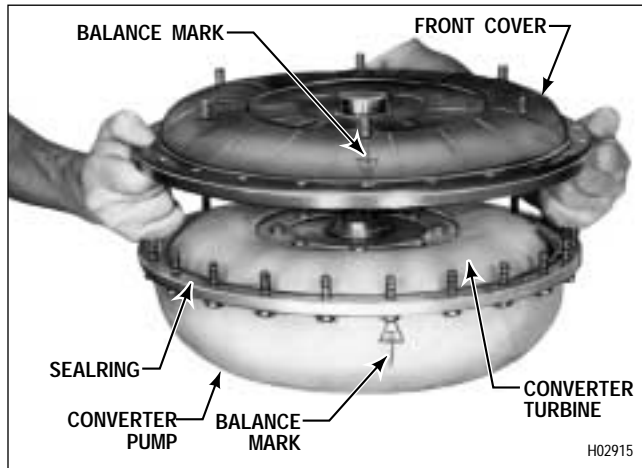
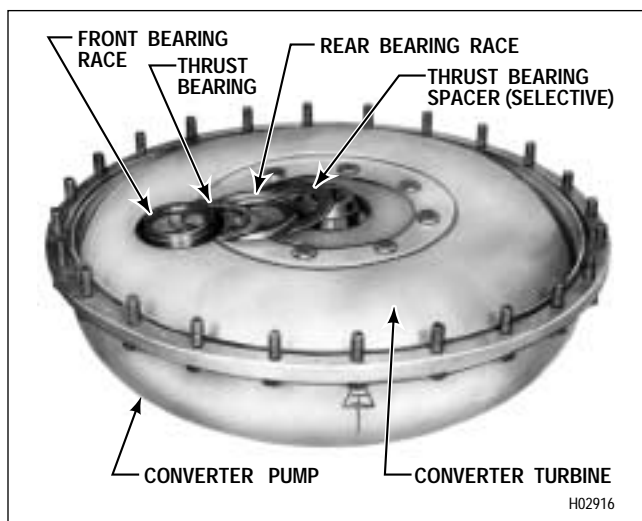

Figure 6-4. Removing (or Installing) Torque Converter Cover (AT 543)
Figure 6-5. Removing (or Installing) Spacer, Bearing, and Races at Front of Torque Converter Turbine (AT 543)
(3) Remove the front cover (Figure 6-4). Remove the front cover sealring.
(4) Remove two bearing races, bearing, and bearing spacer (Figure 6-5).
(10) Install the same color selective thrust bearing spacer as was removed in Paragraph 6-4b(4) (Figure 6-5).
(11) Using transmission fluid, lubricate the rear bearing race and install it, flat side first, onto the spacer (Figure 6-5).
(12) Lubricate the thrust bearing, and install it onto the bearing race (Figure 6-5).
(13) Using oil-soluble grease, install the front bearing race, inner lip first, into the hub of converter cover 5 (Foldout 7,A).
(14) Install sealring 34 into the groove in the converter pump (Figure 6-4).
(15) Install the converter cover onto the converter pump (Figure 6-4). The balance marks on the cover and pump must match.
(18) Install the rear bearing race (Figure 6-5), flat side first, onto the converter turbine (selective spacer is omitted). The race should be dry.
(19) Install the thrust bearing (dry) onto the rear race (Figure 6-5). Install the front bearing race (dry), inner lip upward, onto the thrust bearing.
(26) Remove the two bearing races and bearing installed in Steps (18) and (19). Install the selected spacer onto the torque converter pump hub (Figure 6-5).
(27) Complete the assembly of the torque converter by following Steps (11) through (17).